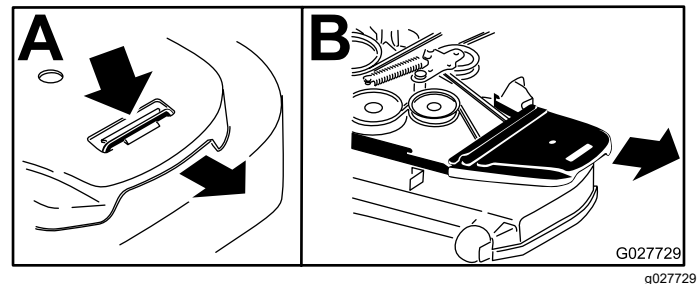

Figure 60
4. Remove the belt covers (Figure 60).